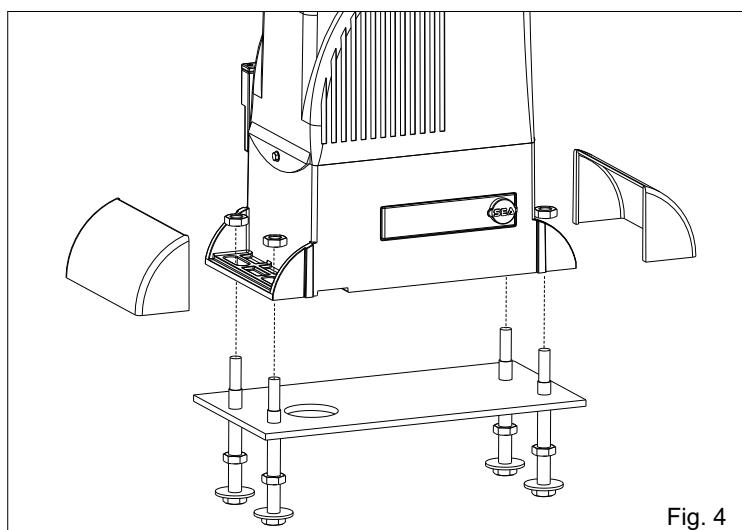

Fig. 4
- 4.1.** Fix the motor-reducer to the foundation plate adjusting the side position and its height (Fig. 4 - Fig. 5) considering the mentioned measurements in Fig. 2.